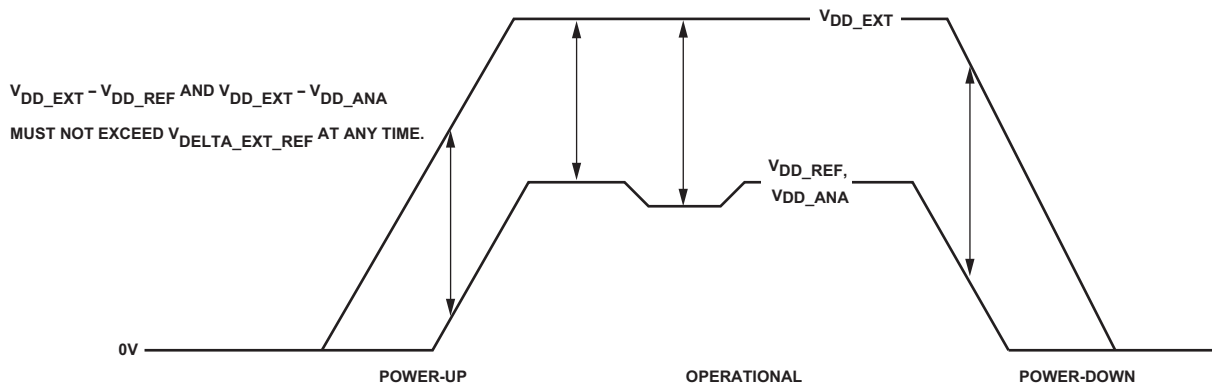

Figure 11. Power-Up and Power-Down Voltage Delta Requirement
1. The  $V_{\Delta\_EXT\_REF}$  specification must be met at all times, including during power-up reset and when powering down the device (Figure 11).